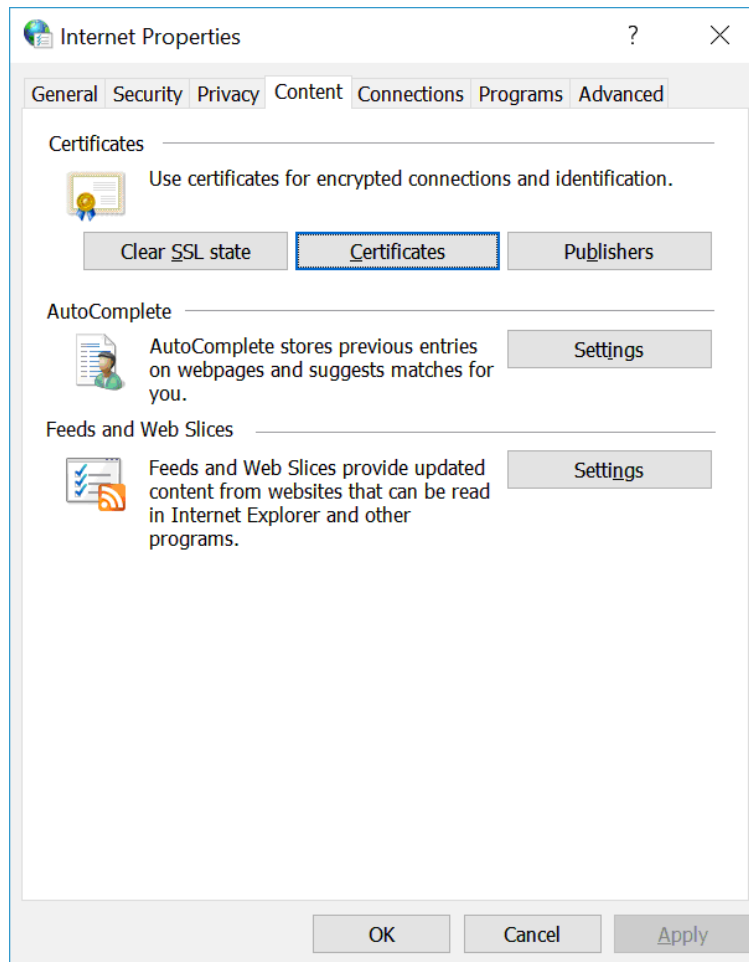

Figure 330: Internet Properties, Content Tab
1. In Windows, click on the Start Menu, type Internet Options, then press the Enter key to open the Internet Properties screen, as shown in Figure 330.